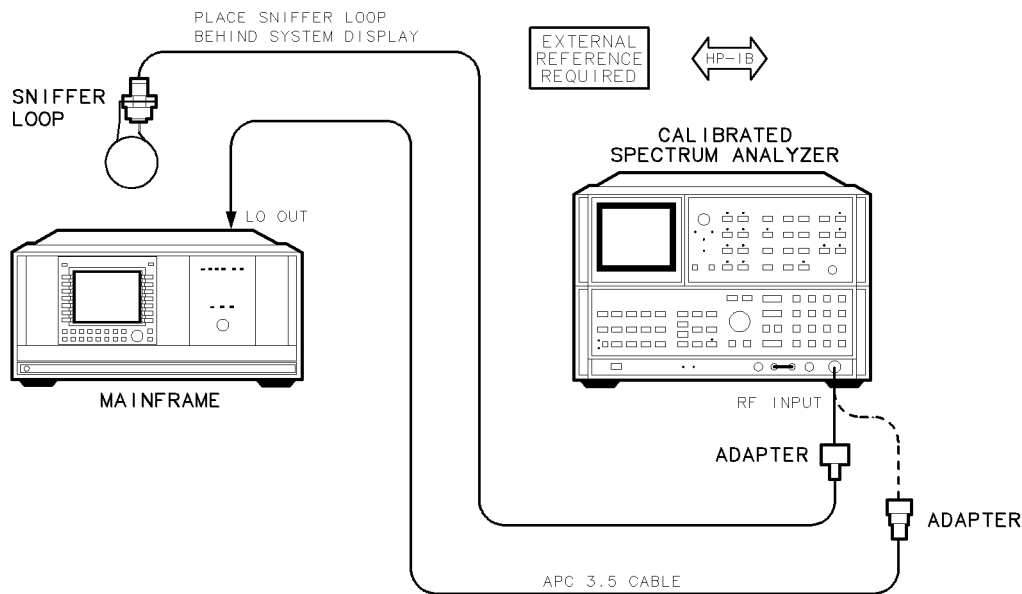

Figure 7-6. LO Display Sidebands Test Setup
1. Connect the HP 8566B spectrum analyzer's RF INPUT to the DUT's LO OUT using the adapter, as shown in Figure 7-6.
2. Connect the sniffer loop to the spectrum analyzers's RF INPUT using the adapter, as shown in Figure 7-6.